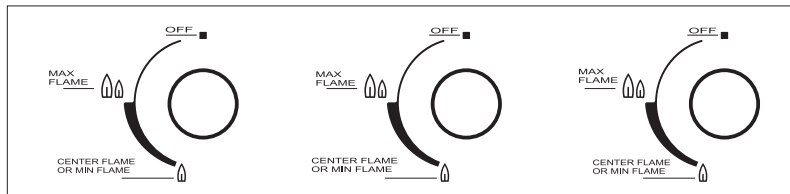

Fig.7
- Turn knob to get flame according to the indication. (Fig.7)